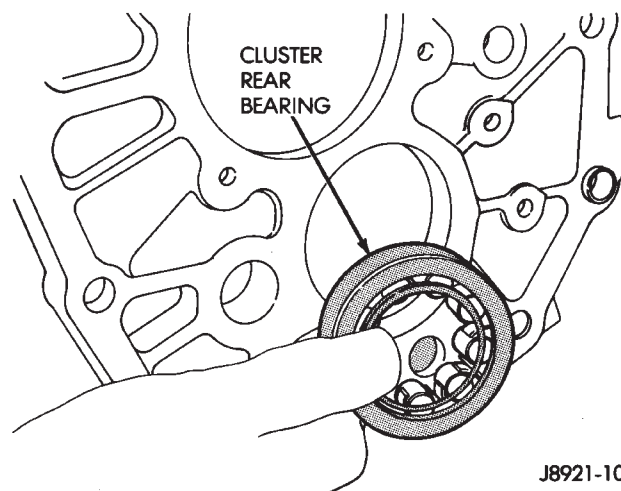

Fig. 58 Removing Cluster Gear Rear Bearing
(6) Remove cluster gear rear bearing from intermediate plate (Fig. 58).